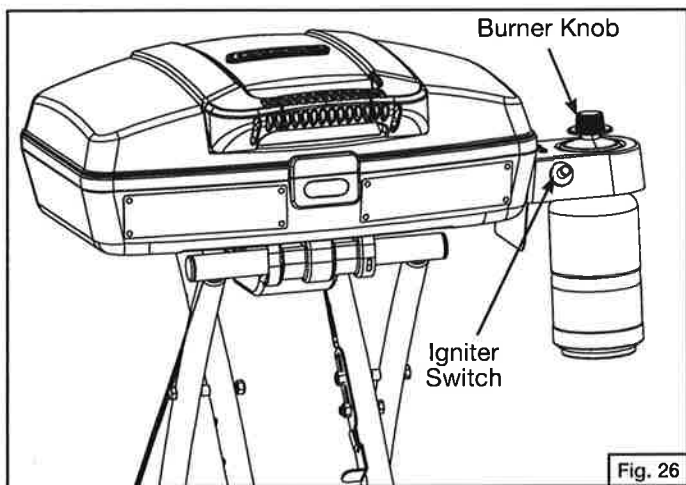
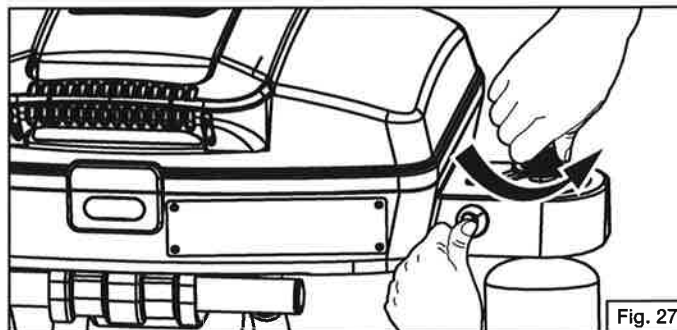

Fig. 26
Fig. 27
2. Adjust flame with regulator valve. (Fig. 26 and Fig. 27)